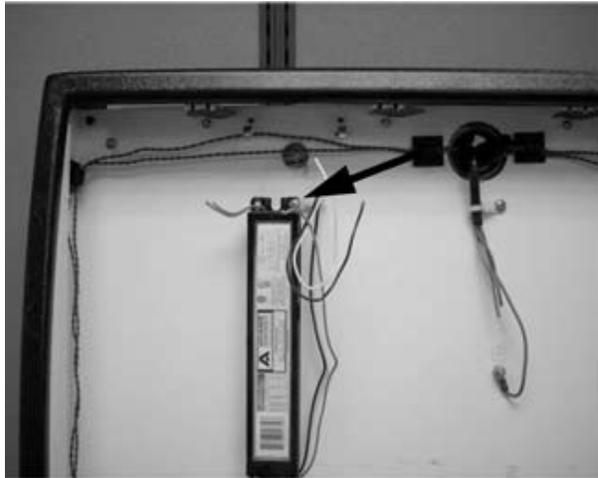
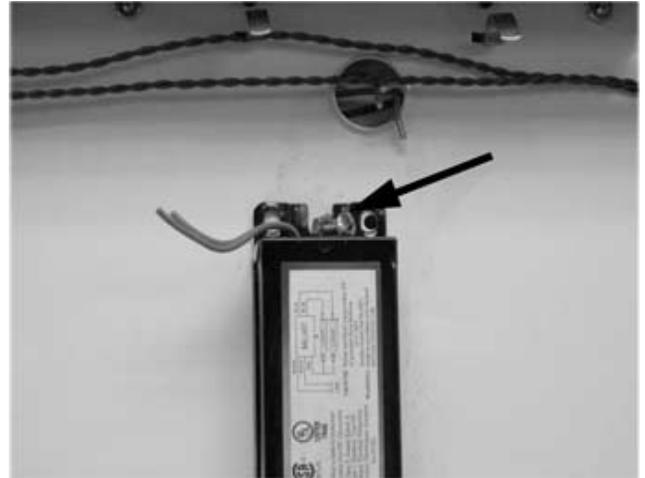

Figure 24.
Figure 25.
- B. Remove the 2 screws and nuts holding the ballast to the back of the merchandiser, see Figure 24 and Figure 25 (top and bottom screws).